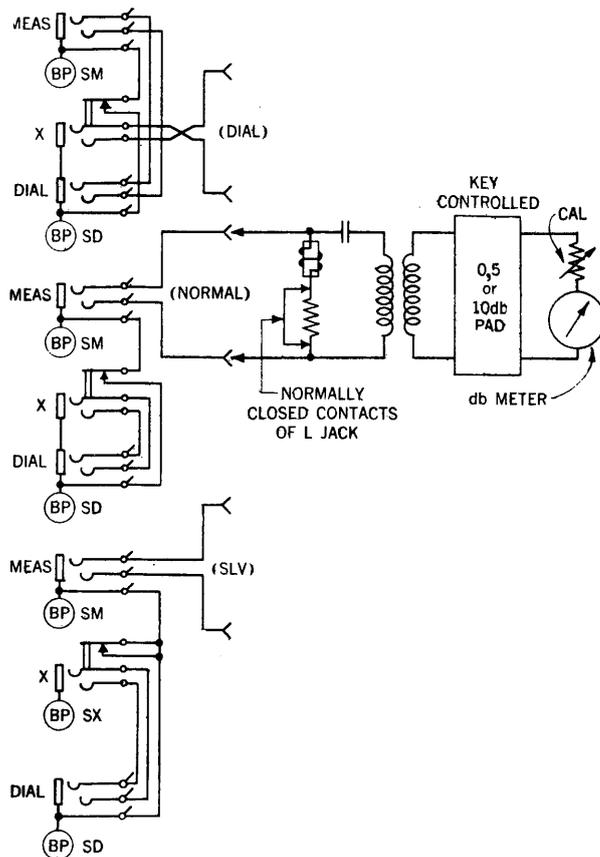

Fig. 2 - Schematic Circuit of 12A Set.
2.09 The circuit of the 12A set for the three positions of the DIAL-SLV key is shown in schematic form in Fig. 2.